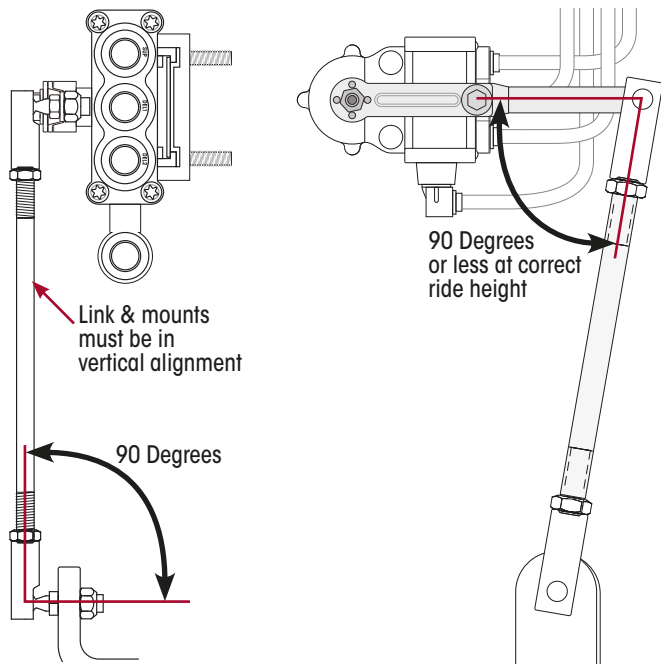

Figure 51: Check Link Mounting and Alignment
16. Check the linkage for interference and installed angle at ride height. Refer Figure 51.